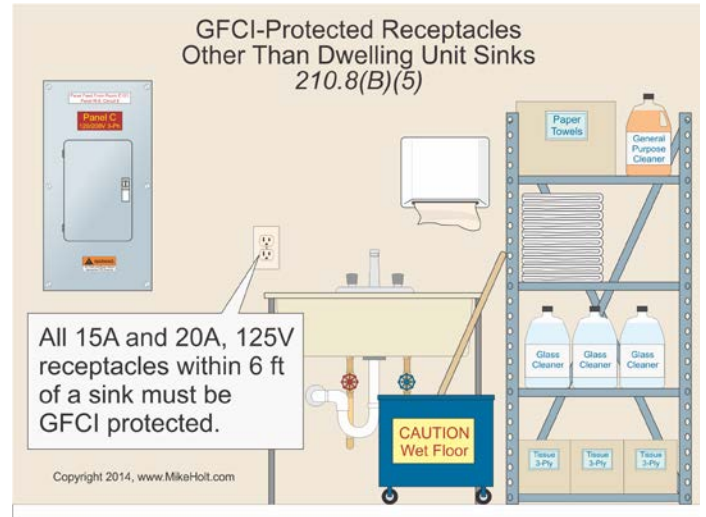

Figure 210-41
(5) Sinks. All 15A and 20A, 125V receptacles installed within 6 ft of the outside edge of a sink must be GFCI protected. Figure 210-41